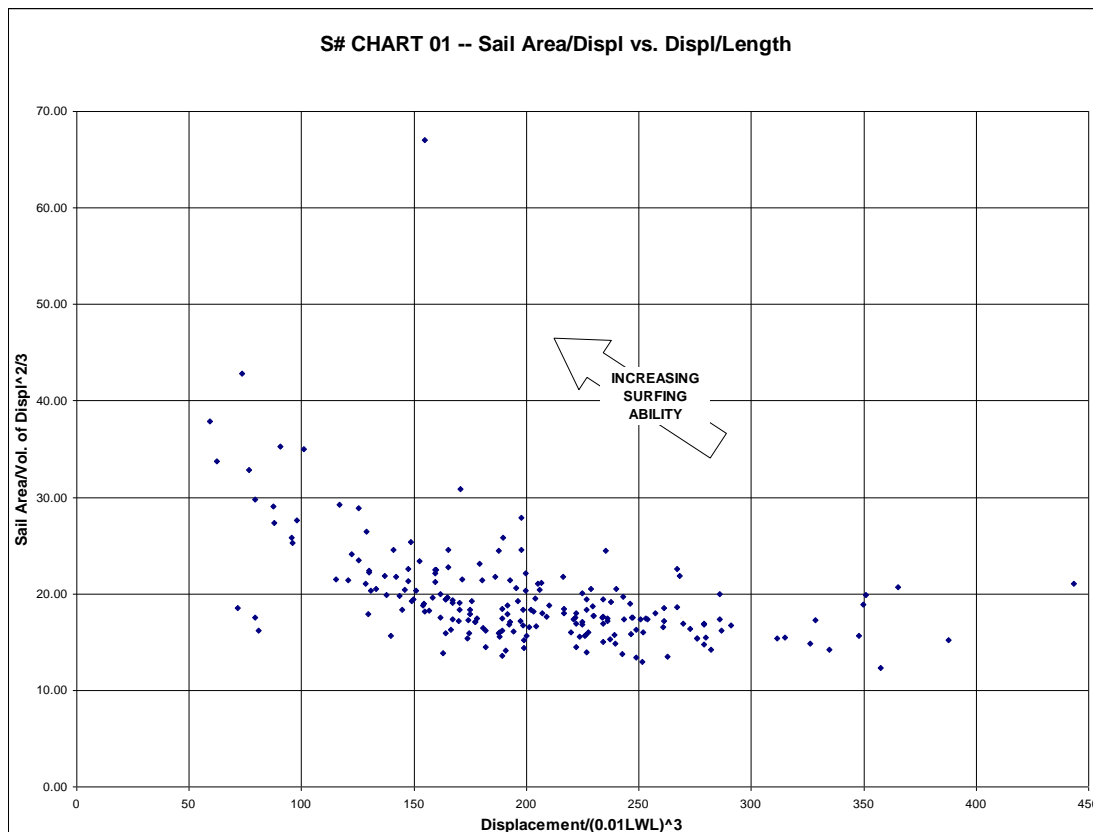

Figure 9. SA/D Ratio versus D/L Ratio.
So, we know that SA/D is a power-to-weight ratio—the higher this ratio, the faster the boat will be. And from our last lesson, we know that Displacement-Length Ratio, DLR, is an indicator of drag—the higher this ratio, the slower the boat would be. We can learn some interesting things if we plot the SA/D ratios versus the DLR ratios for any given population of yachts, such as in Figure 9 above.
Now we have a way to definitively categorize boats, not a wishy-washy, vague notion; we get a unique number for each and every design! I attach the spreadsheet that I used to calculate the SAD and DLR numbers in that chart I posted last week (S# Chart 01, Figure 9, in the previous chapter). Included in that spreadsheet is the S# calculation (pink column), and next to that is the category name for each boat. I sorted the data according to descending values of S# so that you can see how the categories play out. Also included in the spreadsheet is S# Chart 01 of SAD vs DLR for these boats. There are other charts there, too, which you can study or modify at your leisure.
**Figure 10.** Same as Figure 9 but with contours of S# and the four different categories of boat type overlaid. Some SYDI designs, as mentioned in the text, are also labeled.